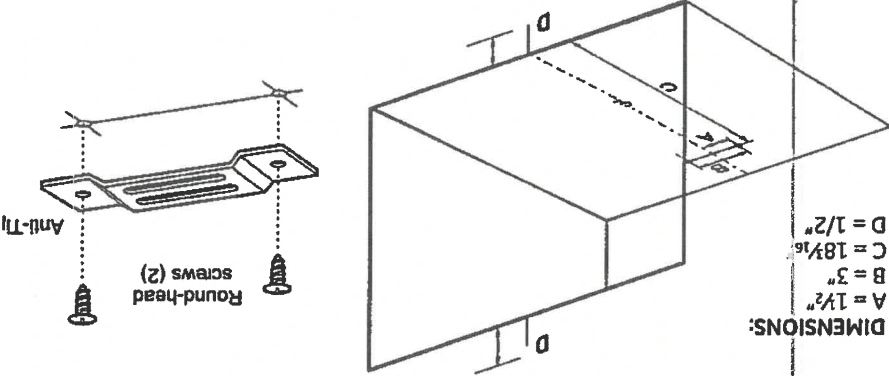

FIG 3
3.INSTALL THE ANTI-TIP BRACKET AND BOTTOM DUCT (FIG 3)